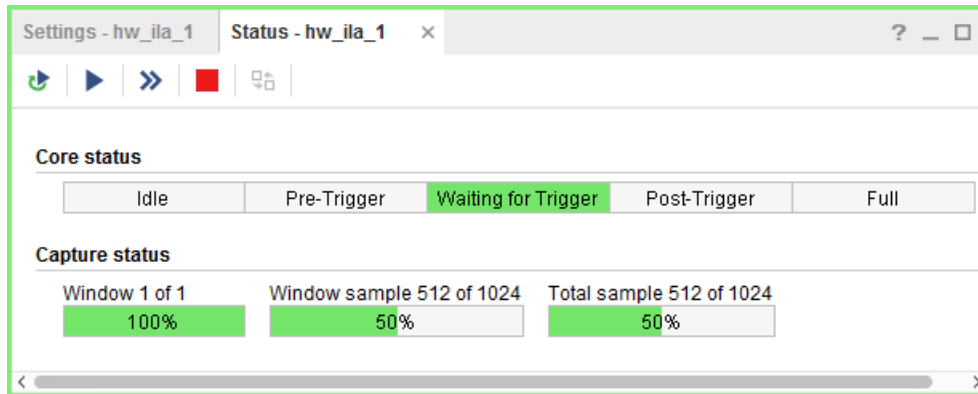

Figure 129: Armed ILA Core
2. Arm the ILA core by clicking the **Run Trigger** button . This arms the ILA and you should see the status "Waiting for Trigger" as shown in Figure 129.